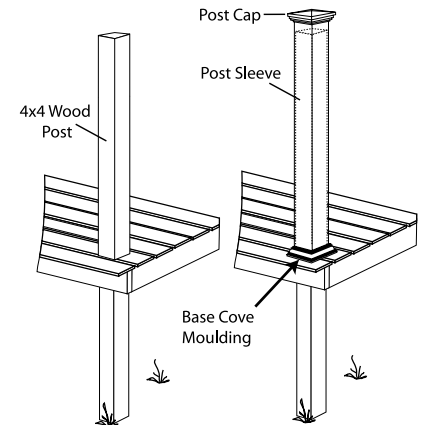

Figure 12
5. After decking is installed, slide sleeve over the wood 4x4 (Fig. 12).
Note: Once posts and/or post sleeves are installed, ensure they are plumb and level. Prior to fastening any sections to the posts, install Base Cove Moulding for a finished look (Fig. 12). Base Cove Moulding may not be installed after sections are attached to posts.